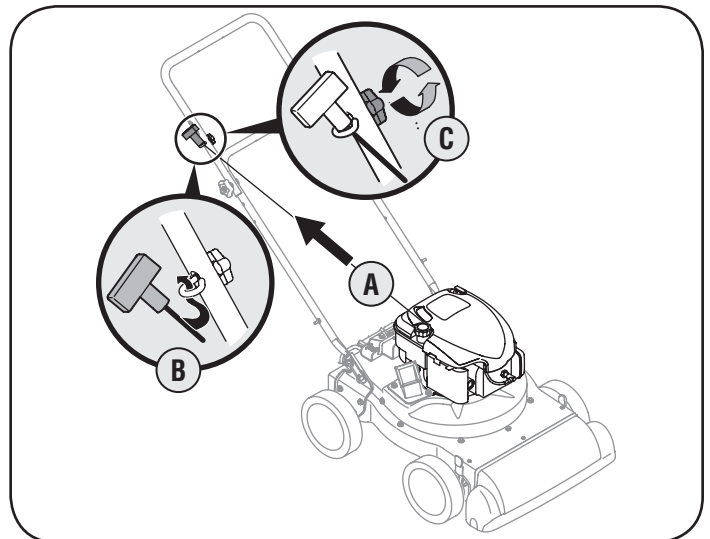

Figure 4
- a. Pull the starter rope out of the engine slowly. See Figure 4.
- b. Slip the starter rope into the rope guide. See Figure 4.
- c. Tighten the wing nut. See Figure 4.